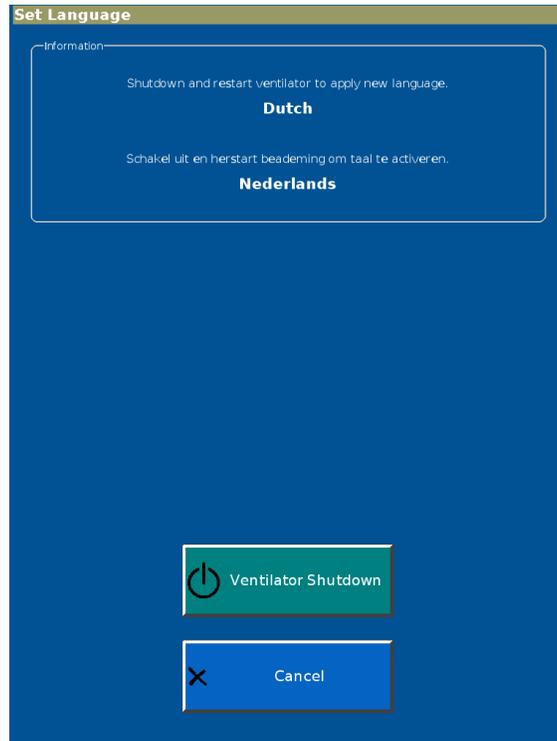

Figure E-4: Set Language screen 2
3. A second **Set Language** screen is displayed (Figure E-4). Select **Ventilator Shutdown** to apply the change. The change is effective after you restart the ventilator.